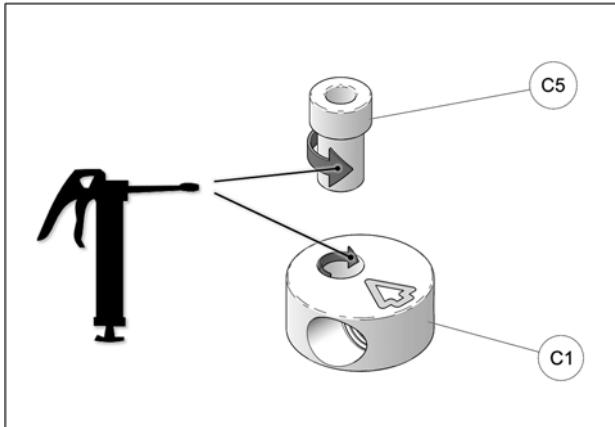

Fig. 21
12. Apply grease evenly all around step spacer bushing (**C5**) and in hole of aluminium disk (**C1**) when assembling these parts together. See Fig. 21